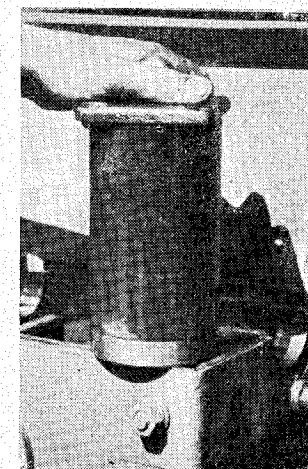

Fig. 65.
10. Using the tubular socket spanner, screw out the four clamp bolts of the ram cylinder and withdraw from the housing the cylinder complete with piston rod and piston (see Fig. 65).